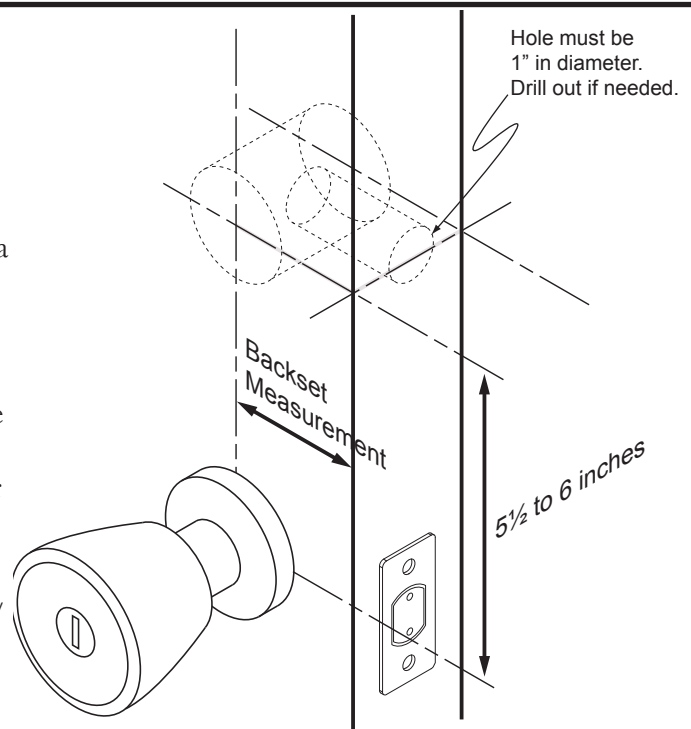

Figure 3
- For doors without an existing deadbolt:** See Figure 3 and measure the backset for your door handle/knob. The center of the knob will either be 2-3/8" or 2-3/4" from the edge of the door. Also measure the thickness of your door. Write these measurements down.
- Your Ultimate Lock™ should be installed 5-1/2 to 6" (140 to 153 mm) ABOVE the center of the door handle/knob, and the backset should match the door handle/knob. Measure this distance above the center of the existing door handle/knob and draw a horizontal line from the door edge back approximately 3 inches on both sides of the door and across the edge of the door (see Figure 3).
- Using a 1" hole saw, spade bit, or forester bit, drill the hole for the deadbolt (Figure 3). Insert deadbolt and mark its outline. Use a sharp chisel to mortise the new deadbolt faceplate $\frac{1}{8}$ " (3 mm) deep into the edge of the door.